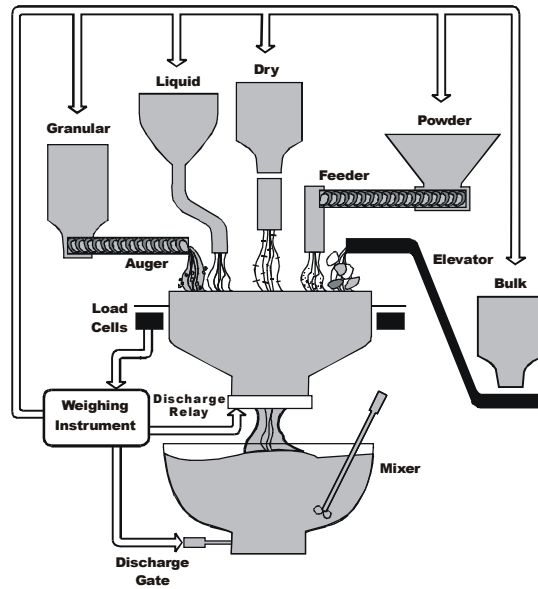

FIG. 1-2 SEQUENTIAL BATCH CONTROL
- Sequential Batch Control - A gain-in-weight application where multiple ingredients are added one at a time into a single weight hopper. (See Fig. 1-2)